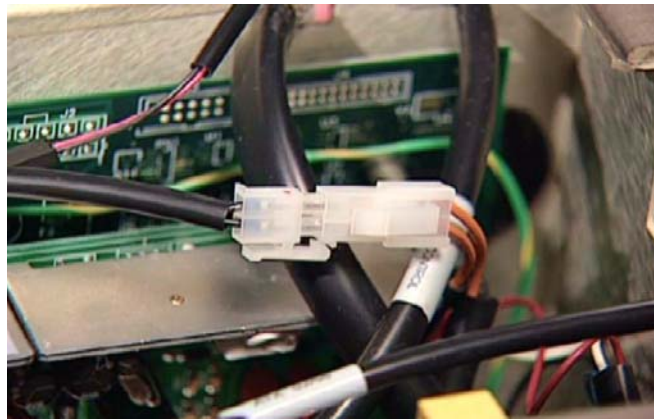

Figure 2 - Thermal Snap Switch Connector
4. Disconnect the thermal snap switch cable from its connector that goes to the Lamp Power Supply Board (Figure 2).